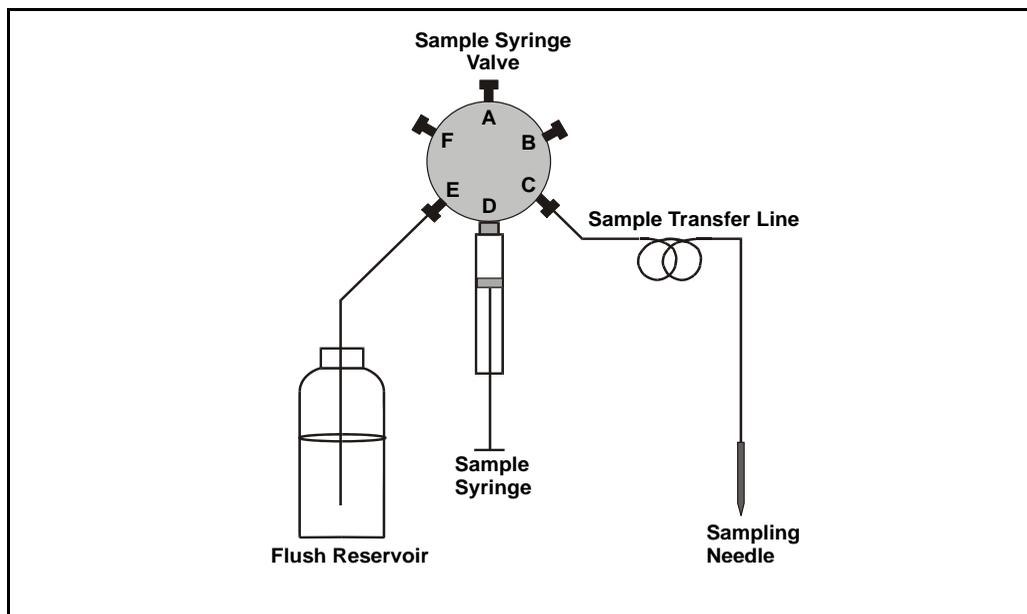

Figure 2-22. Fluid Schematic for Sample Syringe
- The needle arm then delivers a volume of fluid to the flush port. This primes the lines from the flush reservoir to the syringe and through the sample transfer line to the sampling needle (see Figure 2-22).